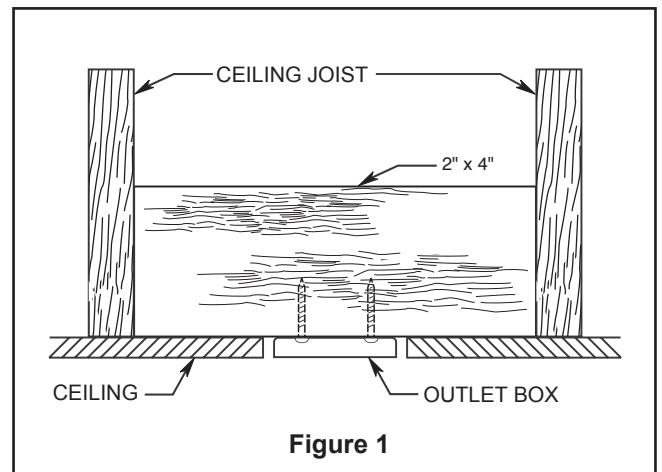
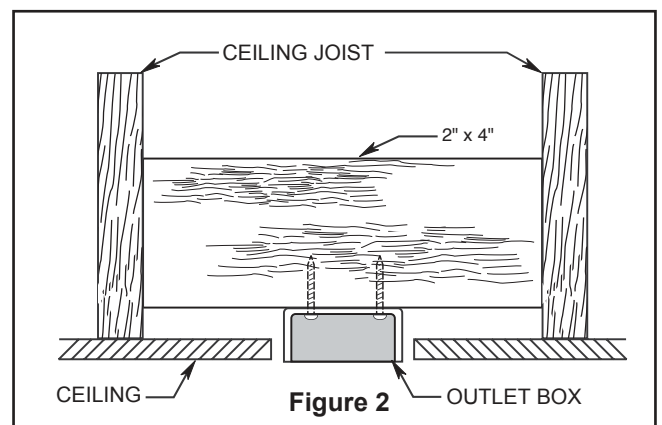
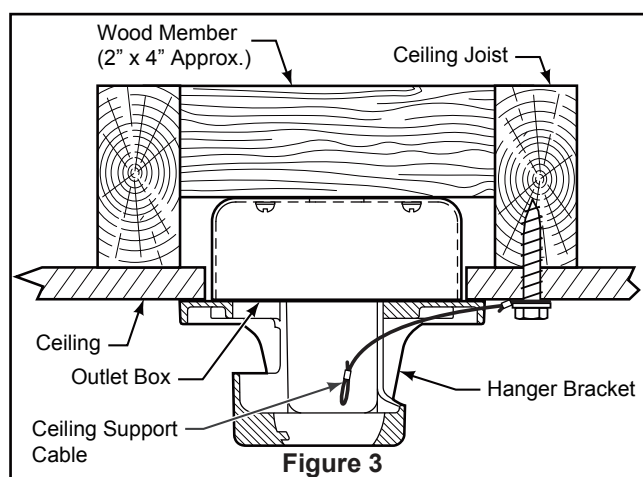

Figure 1
Figure 2
Figure 3
Your new ceiling fan will require a grounded electrical supply line of 120 volts AC, 60 HZ, 15 Amp Circuit. Electrical code requires use of a fan-rated outlet box to support the extra weight and motion associated with a ceiling fan. A fan-rated box will be labeled as such and typically supports up to a 70lbs ceiling fan. Fan-Rated Outlet Boxes vary in ratings and design. Ensure the ratings of your ceiling fan outlet box meet the requirements for the ceiling fan being installed. Figure 1, Figure 2 and Figure 3 depicts different structural configurations that may be used for mounting the outlet box.
## Low profile box (Figure 1)
## Deep box (Figure 2)
### Deep box with brace (Figure 3)
3. Loosen the two set screws and locking nuts in the downrod support of the motor assembly. Route the brown, blue, red, gray, yellow wires and safety cable through the downrod. (Figure 3)
1. Securely attach the hanger bracket to the outlet box using the outlet box screws and washers supplied with the outlet box. (Figure 3)
2. Drill a 1/4" pilot hole into the building structure to prevent splitting or cracking with installation of the lag bolt. Using the 3/8" x 2" lag bolt and flat washer, attach safety cable to ceiling joist or wood structural member. The lag bolt will pass through the flat washer, safety cable loop, and into the building structure. (Figure 3)
**NOTE:** Ceiling support cable cannot be secured to outlet box only, it must be directly secured to ceiling joist or structural member using the 3/8" x 2" lag bolt and flat washer. (Figure 3)
- 2. Slide the receiver into the hanger bracket before wiring as shown in figure 3.
3. Remove the battery cover from remote control by screwdriver and retain the screw for later. (Figure 3)